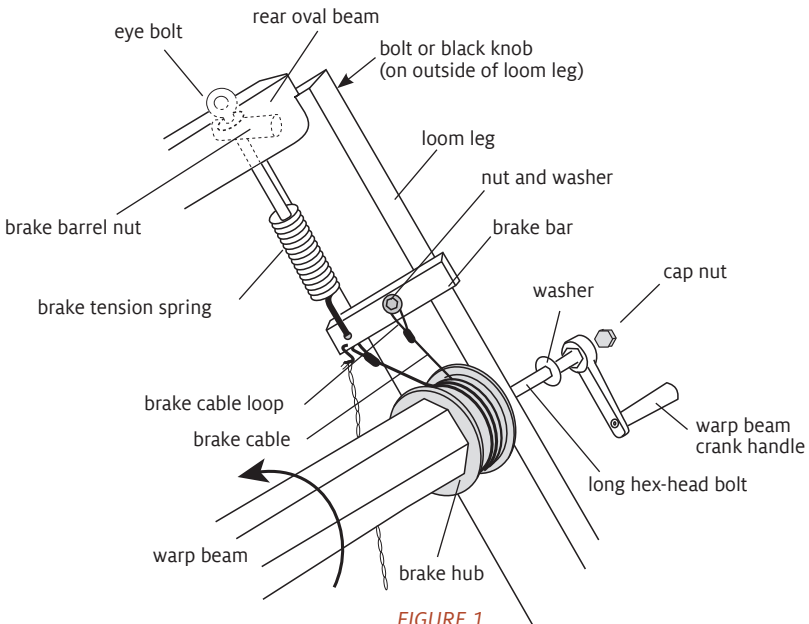

FIGURE 1
1. Using the warp beam crank as a wrench, unscrew and remove the 3/8" cap nut by turning it counterclockwise (figure 1). Hold the warp beam to prevent it from turning. Remove the handle and the washer.
Remove the eye bolt (figure 1) from the brake tension assembly by turning it counterclockwise until it is free of the brake spring. Loosen the black knobs holding the beam to the top of the outside legs. Remove the beam and set it aside. (The brake barrel nut can stay in place.)
4. Remove the nut and washer at the center of the brake bar (figure 1). Take the loop off the bolt and carefully unwind the brake cable.